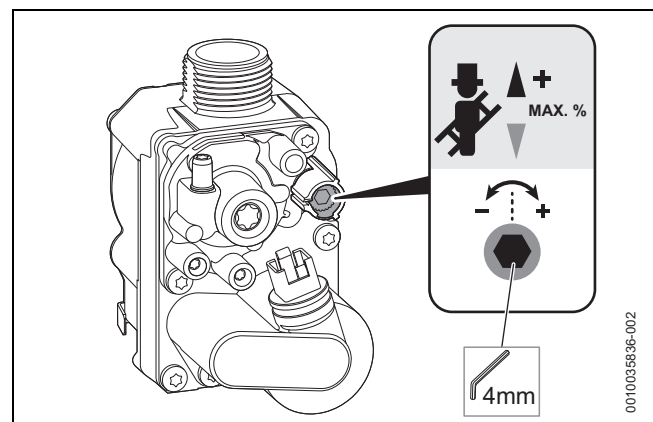

Fig. 85 Setting the CO2 content
- ▶ Insert the hex tool into the adjusting screw of the gas valve (as shown in the below Figure 85) and set the CO2 content for maximum rated output.